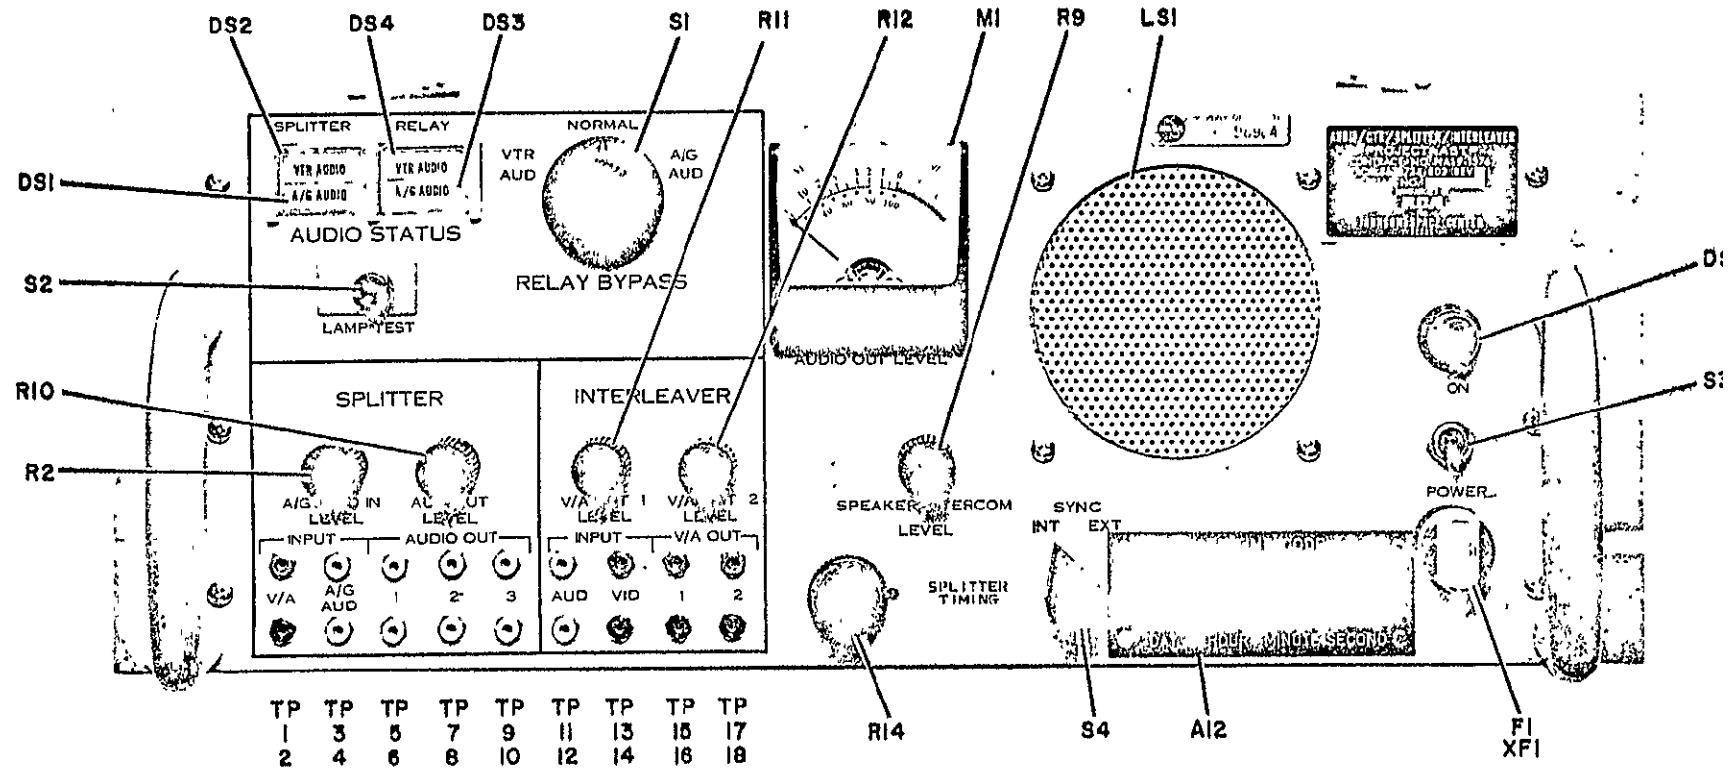

Figure 3-1. Audio/CTE Splitter/Interleaver, Front Panel
The location of the controls and indicators for the Audio Splitter/Interleaver are shown in Figure 3-1. These controls and indicators are tabulated in Table 3-1.
3.3.2 Operation (Refer to Figure 3-1)
1. Figure 3-1. Front Panel Controls and Indicators.
(Refer to front panel controls and indicators, Figure 3-1)